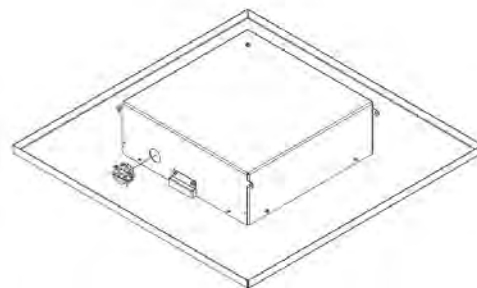

Figure 1
Step 1 – Place the *ceiling enclosure assembly* on the work surface with the keyed doorway unlocked. Remove hole knock outs located on the outside edge of the back box to install conduit connectors. Install one conduit connector if using P.O.E. or install 2 conduit connectors if bringing in power and data separately (Figure 1).